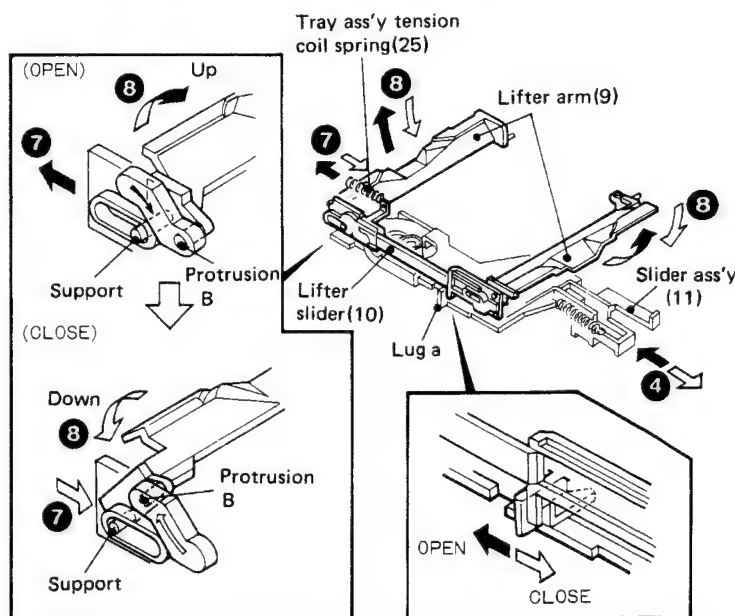

Fig. 5 Lifter arm up/down operation
Fig. 5 shows the OPEN operation until the disc is lifted from the turntable and placed on the disc tray so that the disc is removed from the player. These operations are performed almost at the same time as the up operations of the clamper arm(8) when the tray is opened as described in Fig. 2 to 4 above.